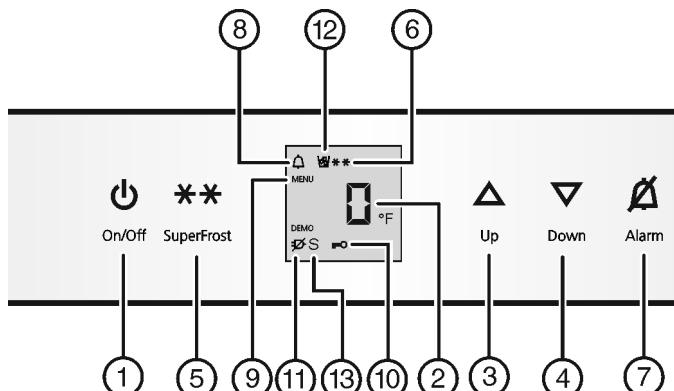

Fig. 2
- Press On/Off button Fig. 2 (1).
- Activate setting mode: Press SuperFrost button Fig. 2 (5) for about 5 seconds.
- ▷ The Menu symbol Fig. 2 (9) lights up.
- Using Up button Fig. 2 (3)/ Down button Fig. 2 (4) select °.
- To confirm: Briefly press SuperFrost button Fig. 2 (5).
- Using Up button Fig. 2 (3)/ Down button Fig. 2 (4) select °F or °C.
- To exit setting mode: Press On/Off button Fig. 2 (1).
- Activate setting mode: press and hold the SuperFrost button *Fig. 2 (5)* for approximately 5 s.
- The Menu symbol *Fig. 2 (9)* lights up.
- Using the Up button *Fig. 2 (3)* or Down button *Fig. 2 (4)*, select **c**.
- Press the SuperFrost button *Fig. 2 (5)* briefly to confirm.
- To switch on the child-proof lock, press the SuperFrost button *Fig. 2 (5)* briefly.
► The Child safety symbol *Fig. 2 (10)* lights up. **c** flashes on the display.
- To switch off the child-proof lock, press the SuperFrost button *Fig. 2 (5)* briefly.
- The Child safety symbol *Fig. 2 (10)* goes out. **c** flashes on the display.
- Deactivate setting mode: press the On/Off button *Fig. 2 (1)*.
- Press Alarm button *Fig. 2 (7)*.
At the same time, the Alarm symbol *Fig. 2 (8)* will flash.
The audible warning automatically ceases, the Alarm symbol *Fig. 2 (8)* goes out, and the temperature display
- To activate setting mode: Press and hold the SuperFrost button *Fig. 2 (5)* for approx. 5 s.
- To access the Sabbath mode function: Briefly press the SuperFrost button Fig. 2 (5).